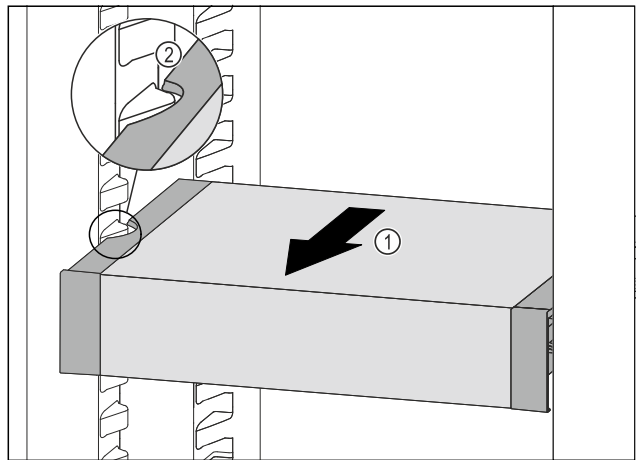

Fig. 178
- ▶ Pull VarioSafe forwards Fig. 178 (1) until the recesses in the side of the VarioSafe are at the level of the support rib in the fridge section. Fig. 178 (2)